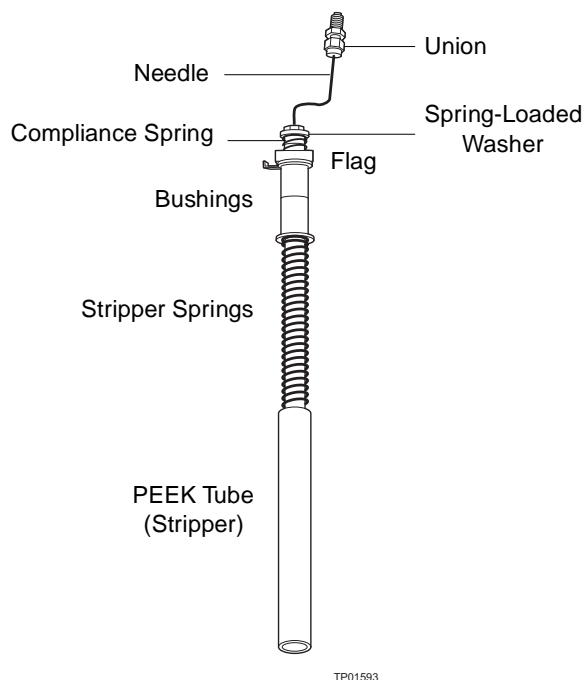
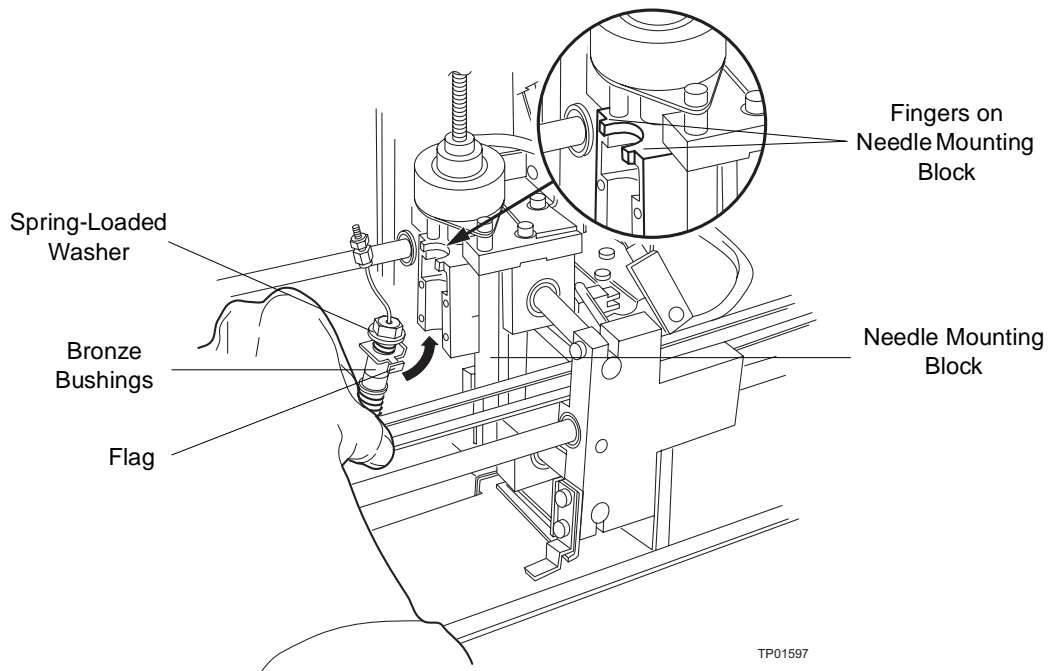

Figure 7-13 2795 Separations Module Needle Assembly
Figure 7-17 Preparing to Insert New Needle Assembly
Needle	Perforates sample plate film or pre-slit septa, draws sample, and injects the sample into the fluidic path through the inject port (see Figure 7-13).
To remove the needle assembly (Figure 7-13):
Caution: To prevent injury or equipment damage, do not touch or press the end of the PEEK tube (stripper, Figure 7-13). Doing so breaks the needle free from the tubing and can cause a puncture wound..
1. Grasp the new needle assembly below the bushings (but above the PEEK tube) on the assembly (Figure 7-13 and Figure 7-17).
2. Slide the spring-loaded washer under the “fingers” on the needle-mounting block (Figure 7-17). Make sure the flag (Figure 7-13 and Figure 7-17) on the replacement needle assembly is on the right side of the needle (as viewed from the front).